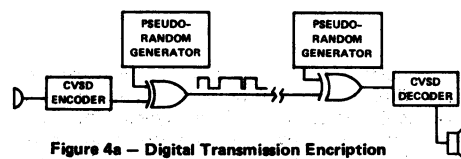

Figure 4a — Digital Transmission Encryption
- 2) **Secure Communications:** Digital data can be quite securely encrypted using fairly simple standard hardware (Figure 4a). Scrambled speech for audio channels may also be accomplished by encoding into a shift register, then selecting different segments of the shifted data in pseudo-random fashion and decoding it (Figure 4b).